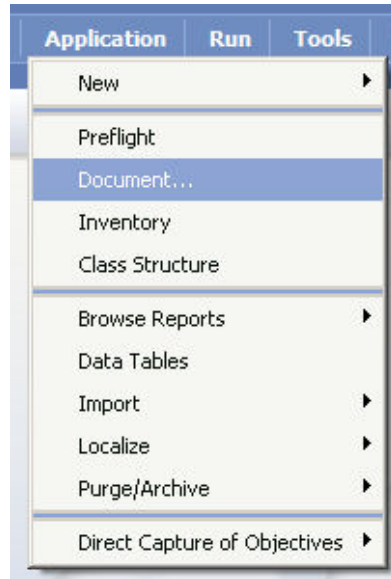

Figure 6-1. Document Menu Item
1. Select **Application > Document** (Figure 6-1)